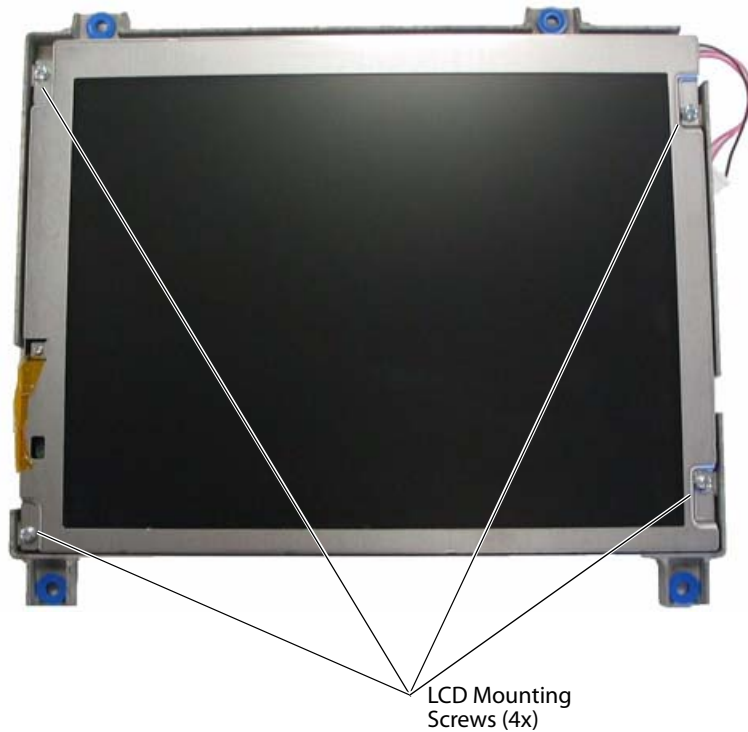

Figure 4.28 LCD Mounting Screws
- 4 Remove the four screws that mount the LCD to the mounting frame as shown in Figure 4.28.
- 2 Reinstall the four screws that mount the LCD to the frame as shown in Figure 4.28. Torque the screws to 5.5 inch/pounds (.622 Newton-meters).